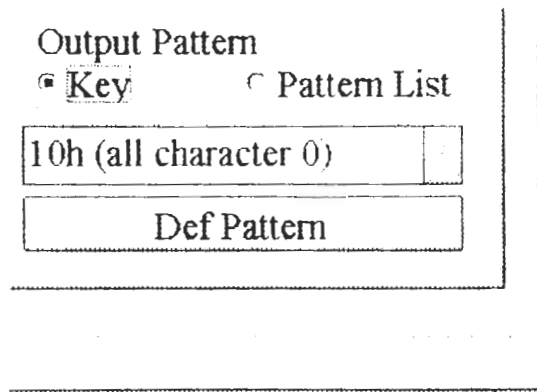
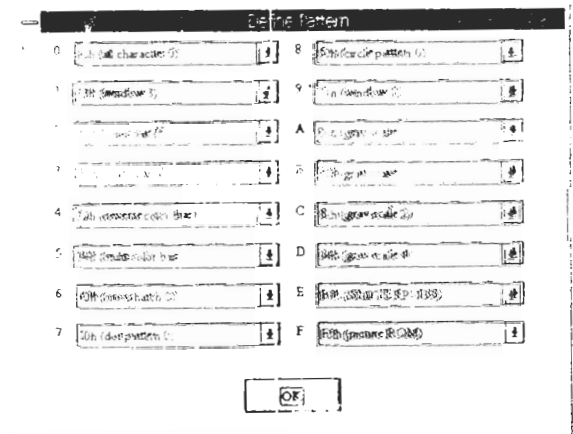

Figure 5-4
Figure 5-5
- (1) Select the "Key" from the "Output Pattern" menu. See Figure 5-4.
- (2) The "Def Pattern" button is changed from gray to black. Click the button.
- (3) The setting menu is displayed as shown in Figure 5-5
- (4) Click "↓" of the pattern number input box of the desired pattern key number.
- (5) The pattern number list is displayed.